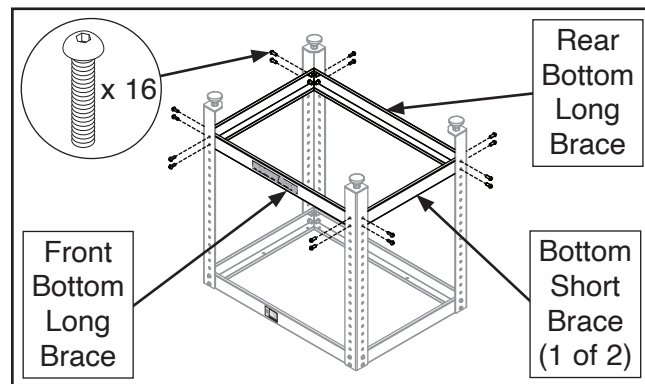

Figure 5. Bottom braces attached to assembly.
2. Attach (1) front bottom long brace, (1) rear bottom long brace, and (2) bottom short braces to assembly from **Step 1** with (16) M8-1.25 x 20 button head cap screws (see **Figure 5**).